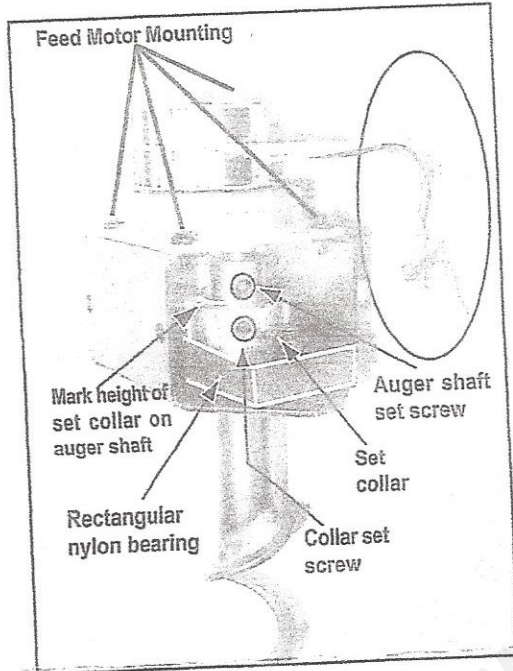

Figure 4
- Loosen set screw that secures auger shaft to feed motor shaft. Figure 4.
- First mark the height of the set collar on the auger shaft with a black marker for future reference. Figure 4. Remove set screw securing auger shaft to feed motor shaft. Only *loosen* set screw in set collar and ensure collar will slide on shaft.
- Align set collar with reference mark made previously on auger shaft. Figure 4. Tighten set screw in collar. Align auger shaft set screw with flat side of feed motor shaft. Hold set collar down, away from motor and tighten auger shaft set screw.
- Attach jumper wire (see page 4) if spade connectors are coming from wire harness on feed motor. Molex connector does not require a jumper. Figure 4.
- Attach Molex or spade connectors to the feed motor wire harness, using jumper if needed. Figure 4.